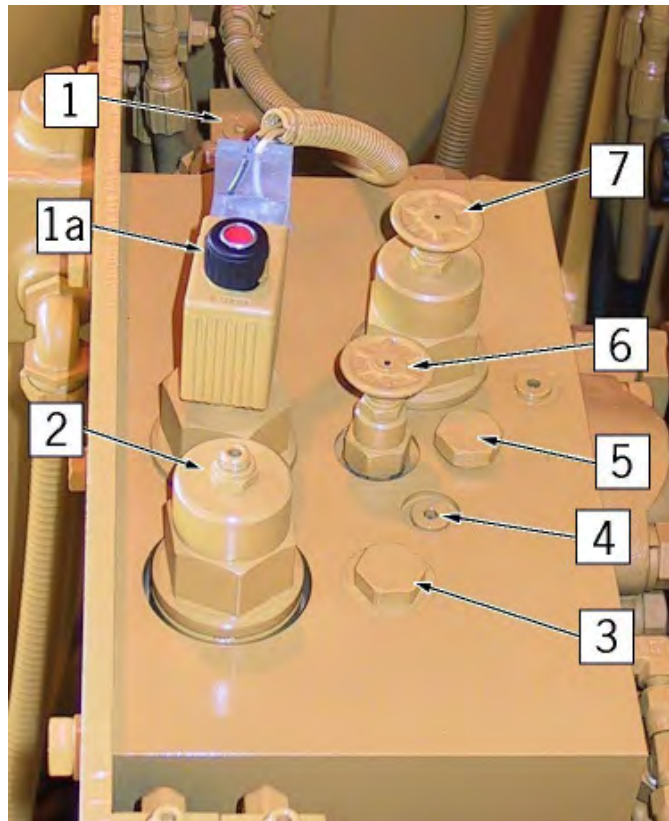

Fig. 7-29 Feed Control Valve 410666
- **(Valve "A")** Rotary Head Counterbalance Valve (409206, item 2, fig. 7-29)